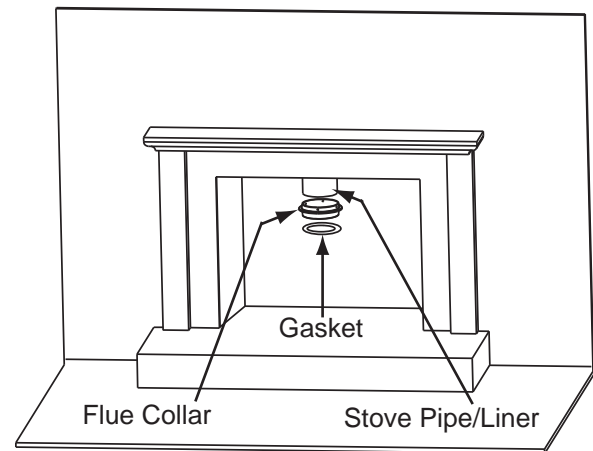

Figure 40.2
1. There are 4 pre-drilled holes in the flue collar 90 degrees apart. Attach the flue collar to the stove pipe/liner. If the seal is questionable use stove mastic **Figure 40.2**.